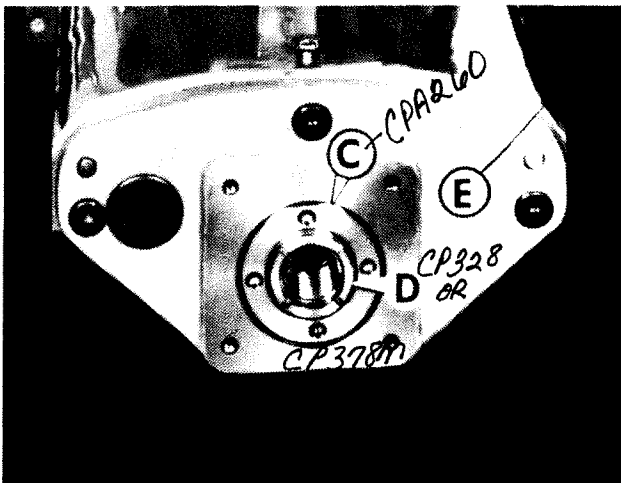

Figure 2.12 - Cross Feed Screw Nut
9. Remove nut "C", Figures 2.12 and 2.13, with an adjustable spanner wrench.
8. Adjust half nut "D", Figure 2.12, for minimum backlash.
2. Loosen nut "C", Figure 2.12, with an adjustable spanner wrench.